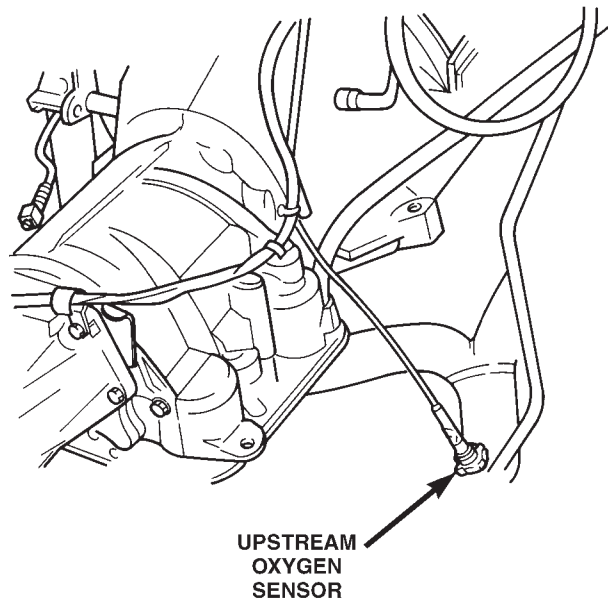
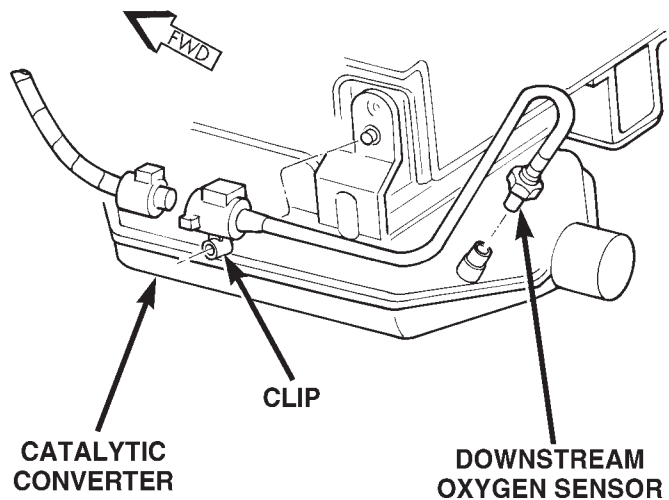
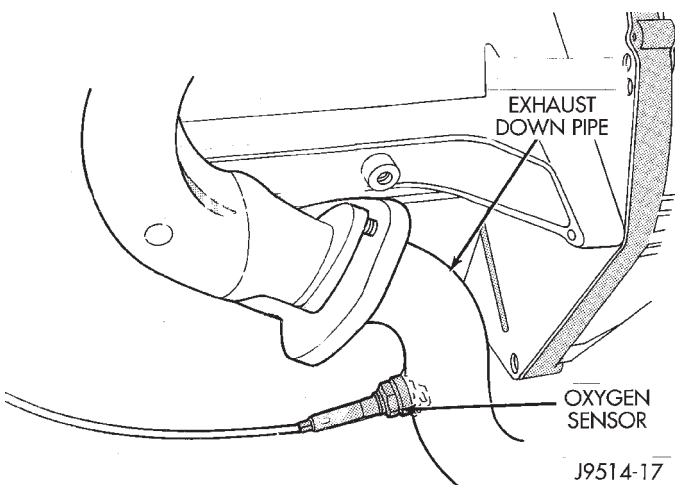

Fig. 80 Upstream Oxygen Sensor Location—5.2L/5.9L Engines
Fig. 81 Downstream Oxygen Sensor Location—All Engines
Fig. 82 Upstream Oxygen Sensor Location—4.0L Engine
The upstream O₂S sensor is located in the exhaust downpipe. The downstream sensor is located near outlet end of catalytic converter. Refer to (Fig. 80) or (Fig. 81).
- (1) Raise and support vehicle.
- (2) Downstream Sensor Only: Disconnect O2S wiring connector clip (Fig. 81) at body. Remove clip from O2S electrical connector and discard.
- (3) Disconnect O2S pigtail harness wire connector from main connector.
The upstream O2S sensor is located in the exhaust downpipe. The downstream sensor is located near outlet end of catalytic converter. Refer to (Fig. 82) or (Fig. 81).